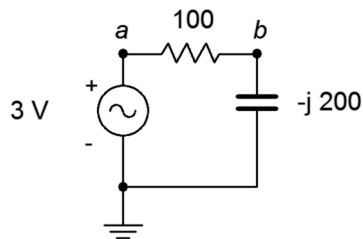

Figure 2.16
30. For the circuit of Figure 2.16, determine the circulating current and the voltages across each component.